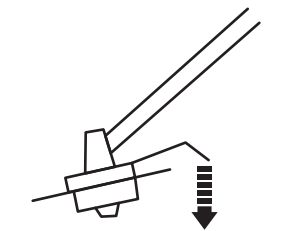

Fig.10a
- > The trimming head is equipped with a bumper (22c) helping to release and cut the trimming line (22a). Simply tap the bumper on a firm surface and the spool will release fresh trimming line (Fig. 10a).